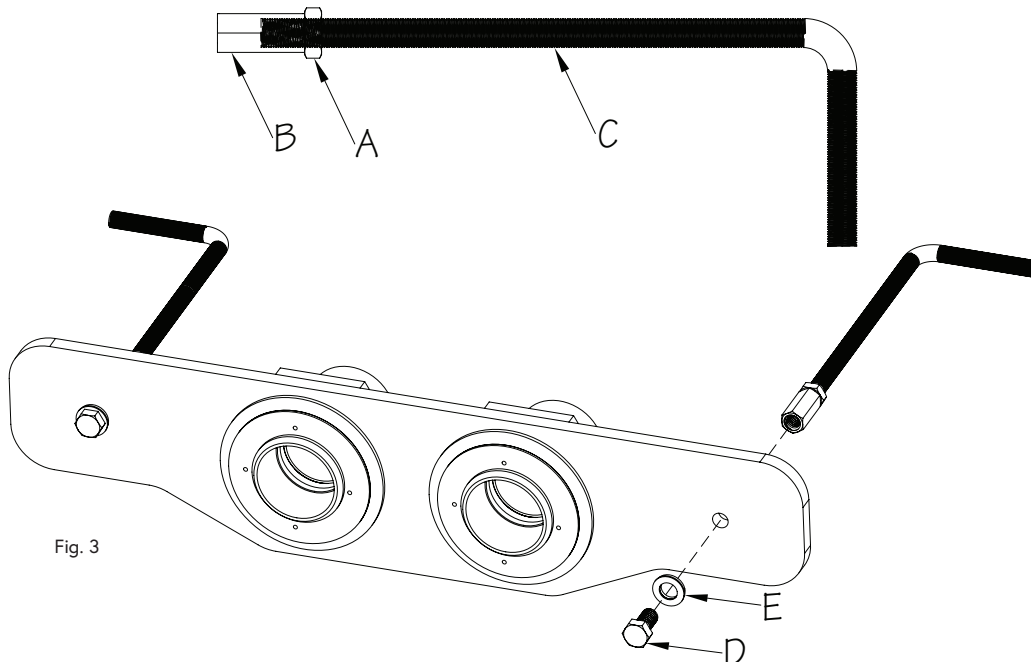

Fig. 3
2. Thread the Jam Nut (A) and Coupler (B) onto the Threaded Rod (C) so that the rod is inserted halfway into the Coupler. From the back of the bracket, align the Coupler and Threaded Rod with the small hole in the bracket. From the front of the bracket, insert the Sacrificial Bolt (D) through the hole and thread into the Coupler, making sure there is a Sacrificial Washer (E) between the bolt and bracket (Fig. 3)